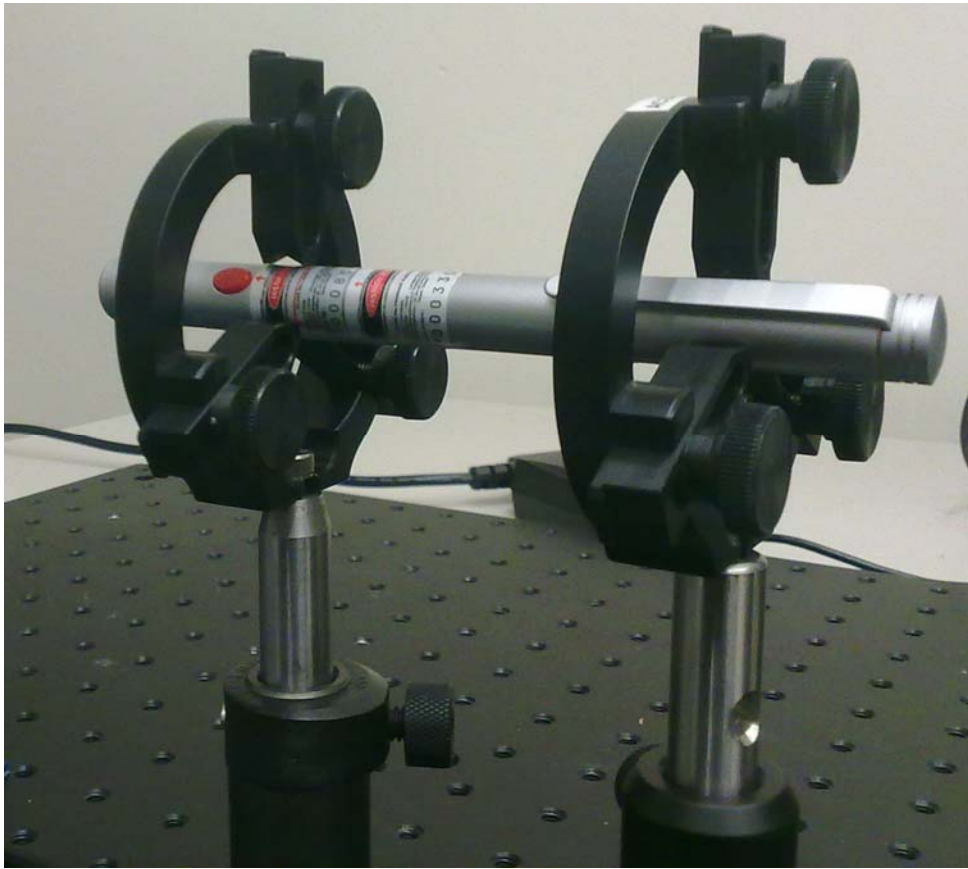

Figure 10: Laser pointer mounting
(11) Shutter but do not turn off the HeNe laser so the beam is not seen. You will be given a specific laser pointer for your group. Hold the laser pointer using the 3 point supports mounted on a rod and post holder as was done in lab 2 and is shown in Figure 10. You may need to use two 3 point supports to get the laser properly aligned to the knife edge as in Figure 10. Repeat the measurements of parts (3) to (10) but for the laser pointer. You may need to use tape or a clamp to keep the laser pointer on and steady.